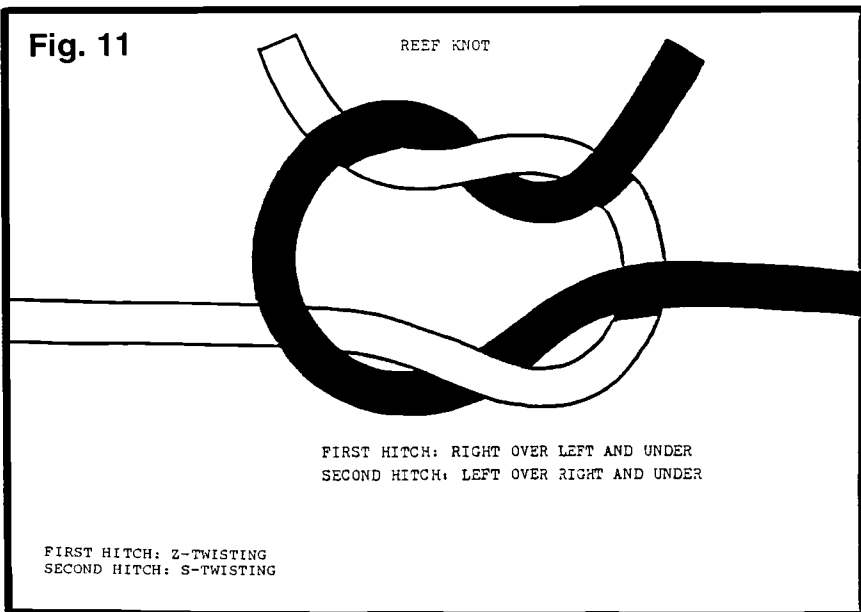

Fig. 12
There are two versions of the Direct Oblique Sheet Bend: S/Z(T) and Z/S(T). Tie an Z/S-configured Reef (Figure 11) -- Z Half Knot first, S Half Knot second -- and trample or tuck one wend or working end, as shown in Figure 12. You will produce a Z/S(T) Oblique Sheet Bend. With this nomenclature, "T" signifies "trample" or "tuck". Similarly, an S/Z Reef (Figure 10) can be trampled into an S/Z(T) Oblique Sheet Bend. You can trample S/Z and Z/S Thief or Grief Knots to create both versions of the Direct Sheet Bend.